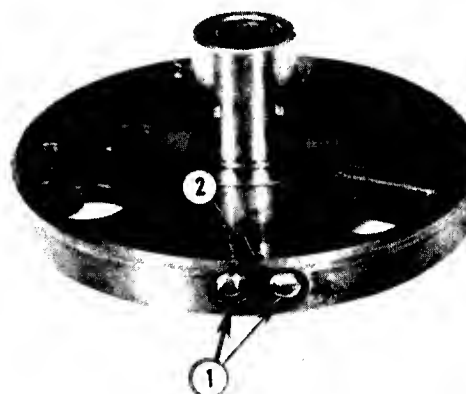

FIG. 4.60-ACCELERATION VALVE (2) LOCATION
11. The acceleration valves will not normally require service. They are located in the pintle circumference 180 degrees from the check valves as shown in No. 1, Fig. 4.60.
b. Remove pin, No. 2, Fig. 4.60